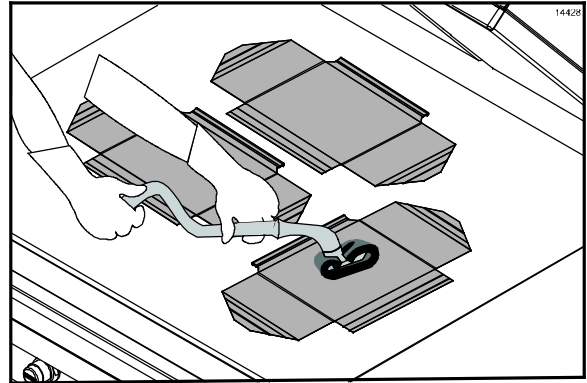

Figure 109
41. Place the upper platen release sheets flat on the lower grill surface. Gently clean both sides of the sheets with the Kay Grill Cleaning Pad Holder. (See Figure 109.)